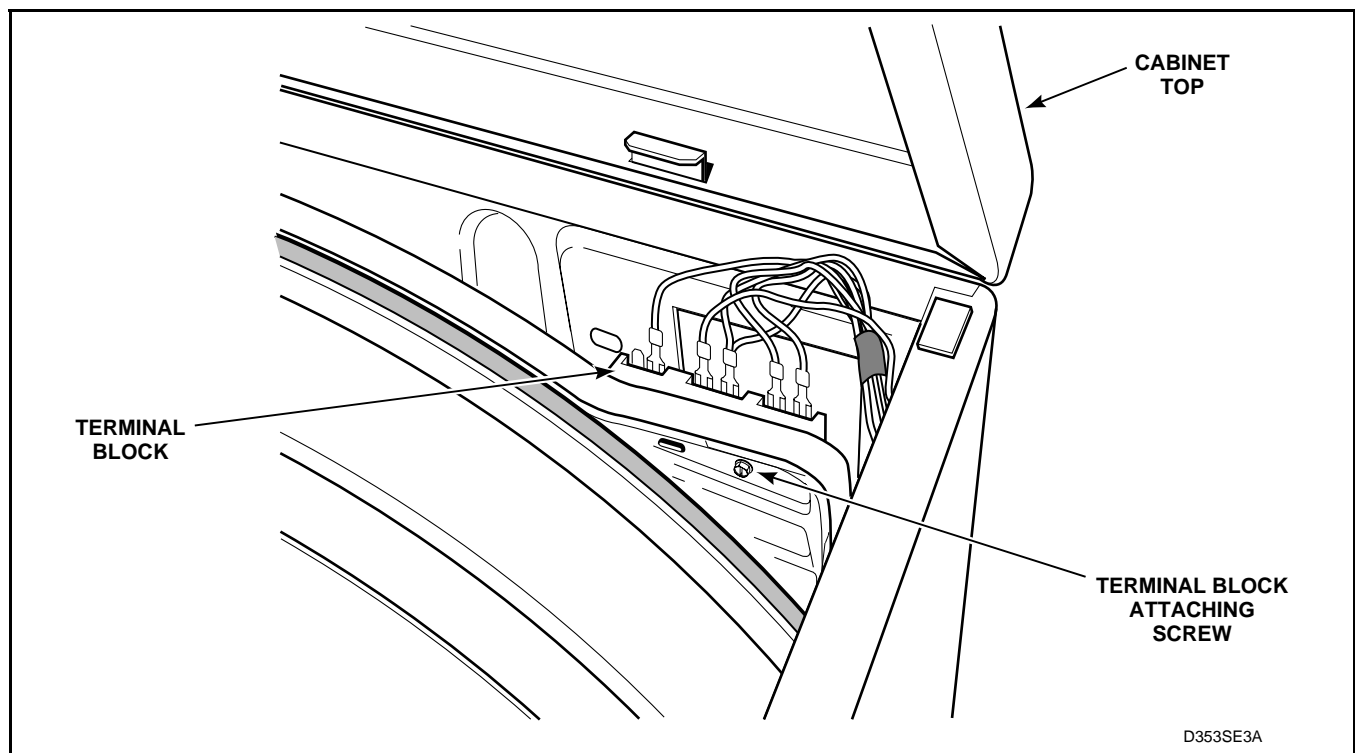

Figure 56
- (3.) Remove screw holding terminal block and shield to rear bulkhead. See *Figure 56*.
- (8.) Remove screw holding terminal block and shield to rear bulkhead. See *Figure 56*.